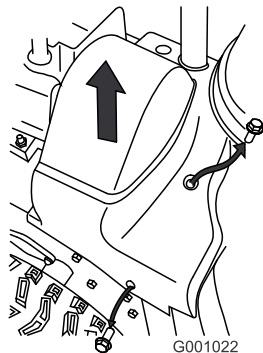

Figure 44
2. Lift up the right side of the belt cover (Figure 44).